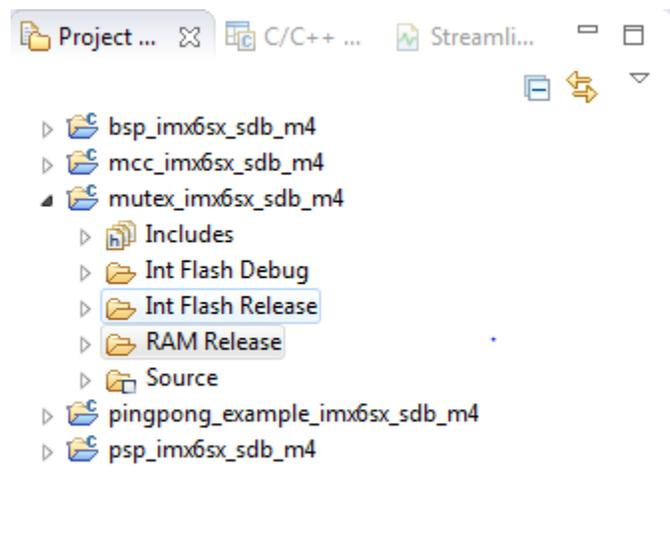

Figure 1 Default configuration
1. When you import the mutex project, the default configuration is **Int Flash Release**. Rename it to **RAM Release**, as shown in Figure 1.